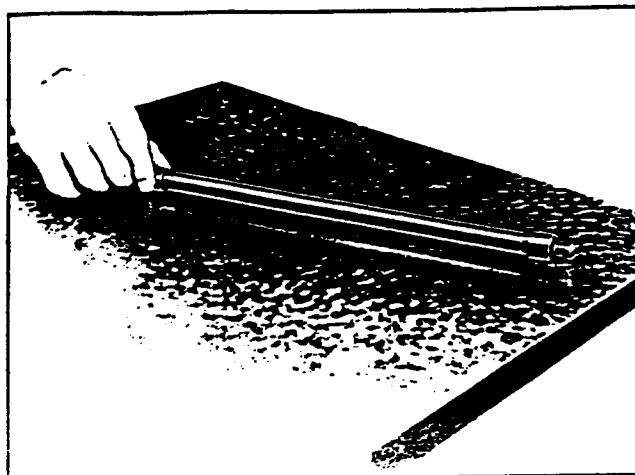

Figure 25. Checking Push Rod for Straightness
4. PUSH RODS.- Examine the push rods for straightness by rolling them on a plane surface. (See figure 25.) Check the oil holes to see that they are clear. Replace loose or excessively worn ball ends.